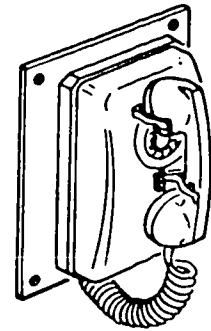

Figure 1-16. Example wall telephone.
c. Telephone. Figure 1-16 illustrates a telephone which has the same components as the 500 telephone, and is operated and serviced in the same manner. Of course, they differ in installation since this one is placed on a wall whereas the 500 is placed on a deck or table.